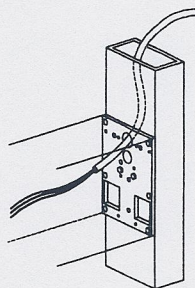

Figure 2-3
- 2.4. Feed the 120 volt power conduit into the header (Figure 2-3). Leave 12" minimum of wire inside the header for final hookup.